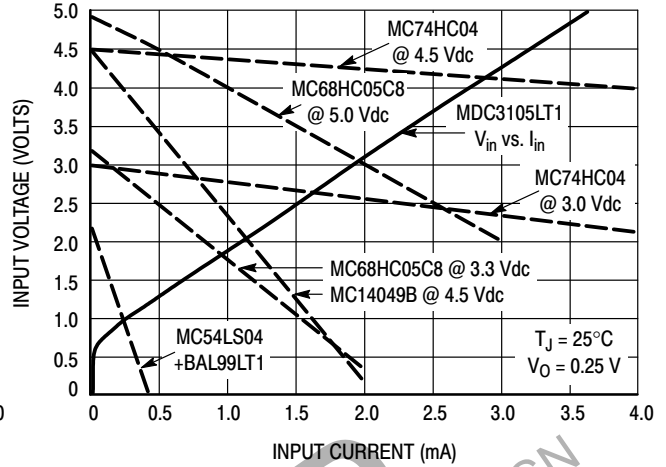

Figure 3. Input V-I Requirement Compared to Possible Source Logic Outputs
- For levels of input current above  $100\ \mu\text{A}$ , enter Figure 3 using that max input current and determine the input voltage required to drive the MDC3105 from the solid  $V_{in}$  versus  $I_{in}$  line. Select a suitable drive source family from those whose dotted lines cross the solid input characteristic line to the right of the  $I_{in}$ ,  $V_{in}$  point.